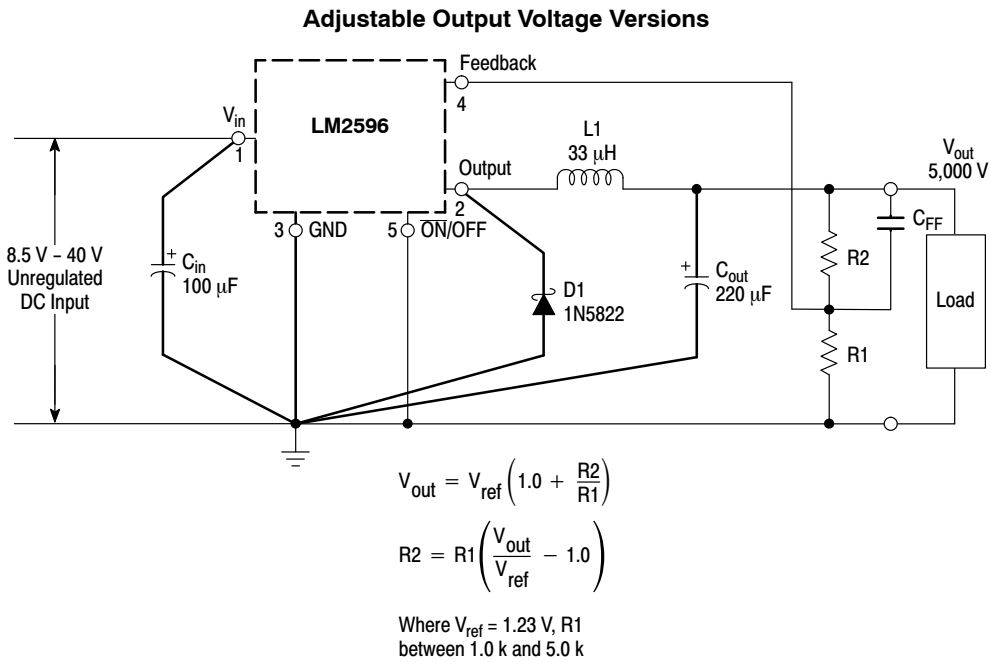

Figure 15. Typical Test Circuit
LM2596 (Note 1, Test Circuit Figure 15)
1. External components such as the catch diode, inductor, input and output capacitors can affect switching regulator system performance. When the LM2596 is used as shown in the Figure 15 test circuit, system performance will be as shown in system parameters section.
TYPICAL PERFORMANCE CHARACTERISTICS (Circuit of Figure 15)
As in any switching regulator, the layout of the printed circuit board is very important. Rapidly switching currents associated with wiring inductance, stray capacitance and parasitic inductance of the printed circuit board traces can generate voltage transients which can generate electromagnetic interferences (EMI) and affect the desired operation. As indicated in the Figure 15, to minimize inductance and ground loops, the length of the leads indicated by heavy lines should be kept as short as possible.